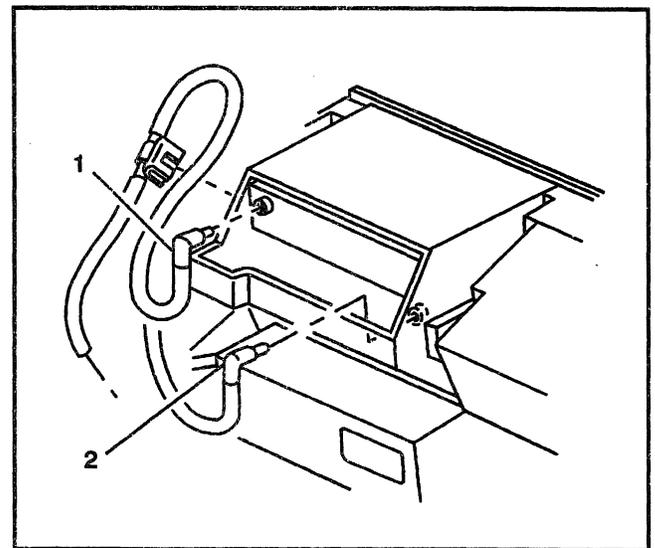

Figure 20—Antenna Extension Cable Routing to Radio
↔ Remove or Disconnect (Figures 20 through 22)
2. Extension cable from radio (Figure 20).
Install or Connect (Figures 20 through 22)
1. Extension cable to radio (Figure 20).